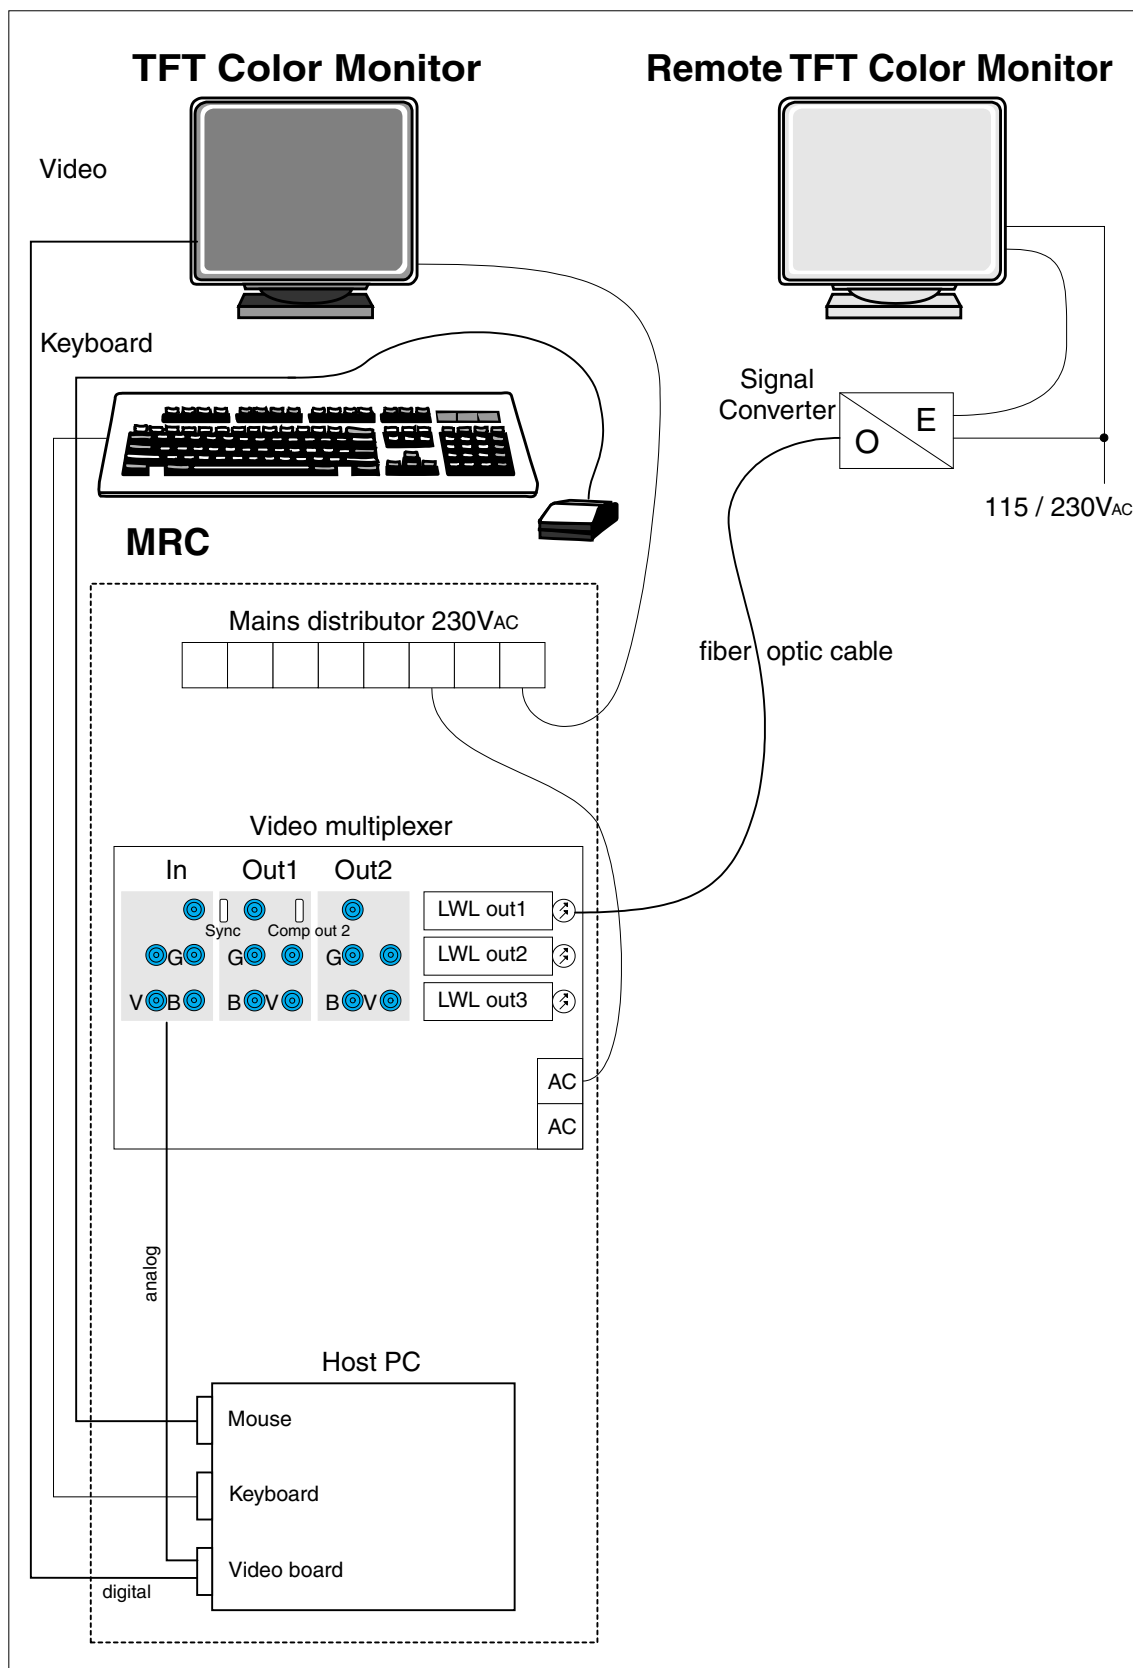

Fig. 49: Cabling for the TFT remote monitor
- Option Remote Monitor (only), see \(Fig. 49 / p. 70\)